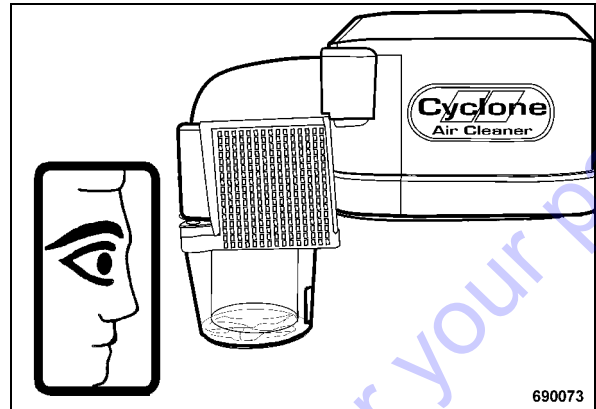

Fig. 43
- Check the cyclone on the air filter cover for dirt or blockage, remove and clean if necessary (Fig. 43).